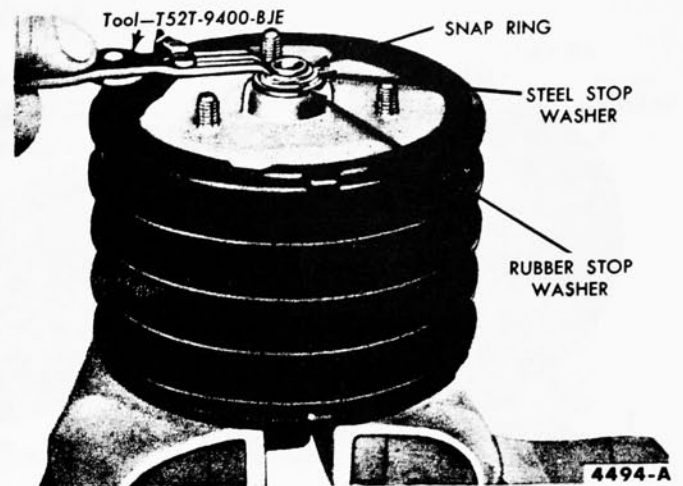

FIG. 6—Snap Ring Removal
3. Position a snap ring tool as shown in Fig. 6, then press the mounting hub and bellows down and remove the snap ring, the steel stop washer, and the rubber stop washer from the guide sleeve.
10. While holding the mounting hub down, place the rubber stop washer, and then the steel stop washer, over the guide sleeve (Fig. 6). Install the snap ring.